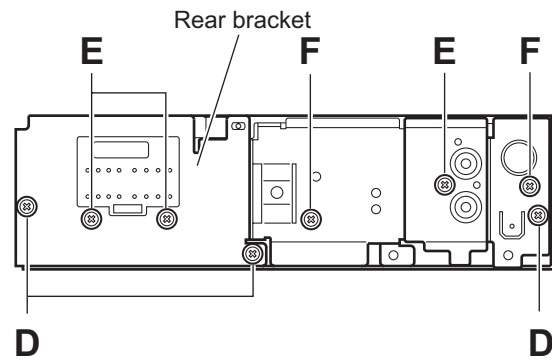

Fig.5
3.1.5 Removing the rear bracket (See Fig.5)
- (1) Remove the three screws **D**, three screws **E** and two screws **F** attaching the rear bracket on the back side of the main body.
- (2) Remove the rear bracket.
3.1.6 Removing the main board (See Figs.5 and 6)
- (1) Remove the three screws **D** attaching the rear bracket on the back side of the main body. (See Fig.5.)